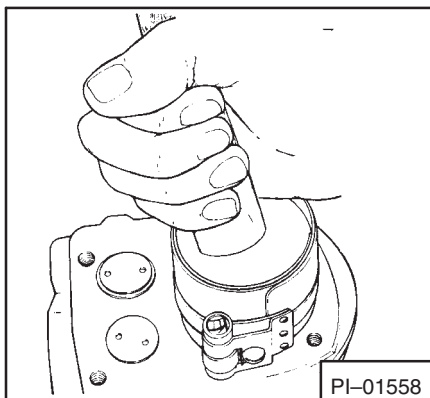

Fig. 55 Installing Piston-Ring Assembly
- b. After making sure rings are in proper position in correct grooves, oil complete assembly, stagger ring gaps so they are not in line and insert complete assembly into cylinder bore. Be sure connecting rod marking is toward flywheel side of engine. Use a ring compressor to prevent ring breakage during installation. Gently push piston into bore with hammer handle—do not pound (Fig. 55).